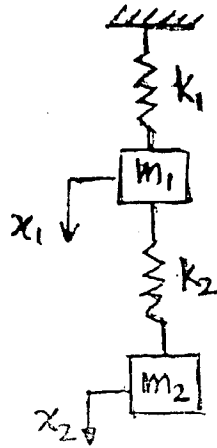

Fig. Q 5(a)
- 5 a. Determine the equations of motion and the natural frequencies of the two-degree-of-freedom spring – mass system shown in Fig. Q 5(a).